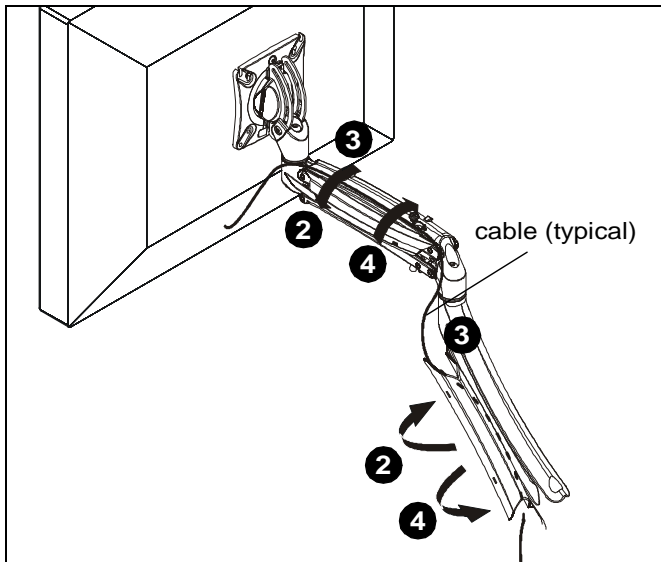

Figure 27
3. Route cables through cable management channels. (See Figure 27)
4. Close cable management covers on monitor arm. (See Figure 27)